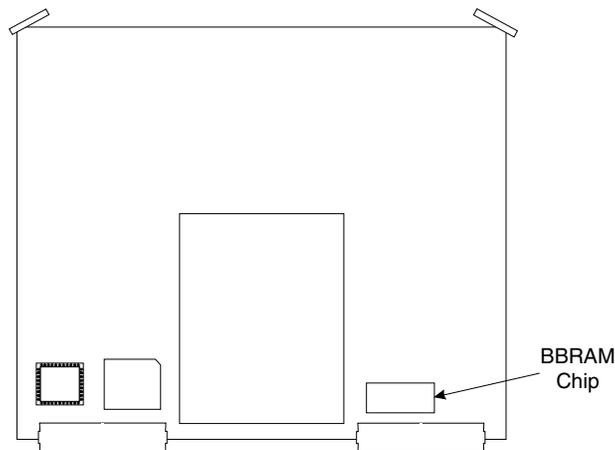

Figure 8-3. Location of BBRAM Chip on the A9 PCB (54347 PCB only)
Step 3. Locate and remove the BBRAM chip from the A9 PCB. See Figure 8-3.